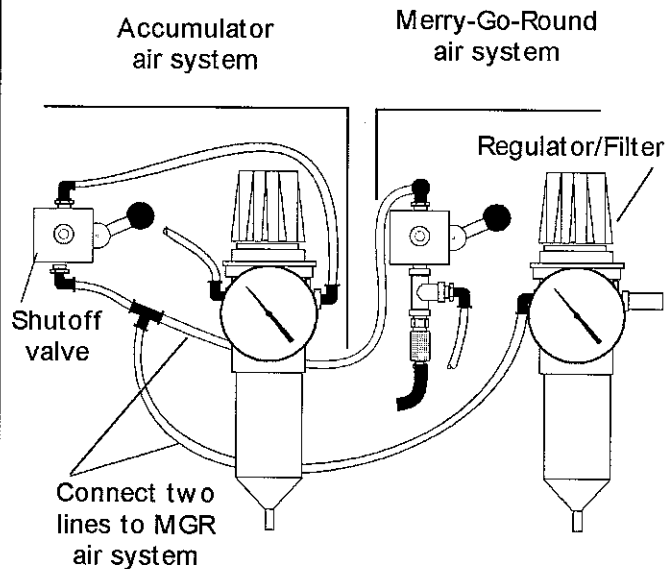

FIGURE 6-24. ACCUMULATOR AIR SYSTEM.
2. See Figure 6-24. Locate the two lines coming off of the 'T' fitting on the Accumulator shutoff valve.